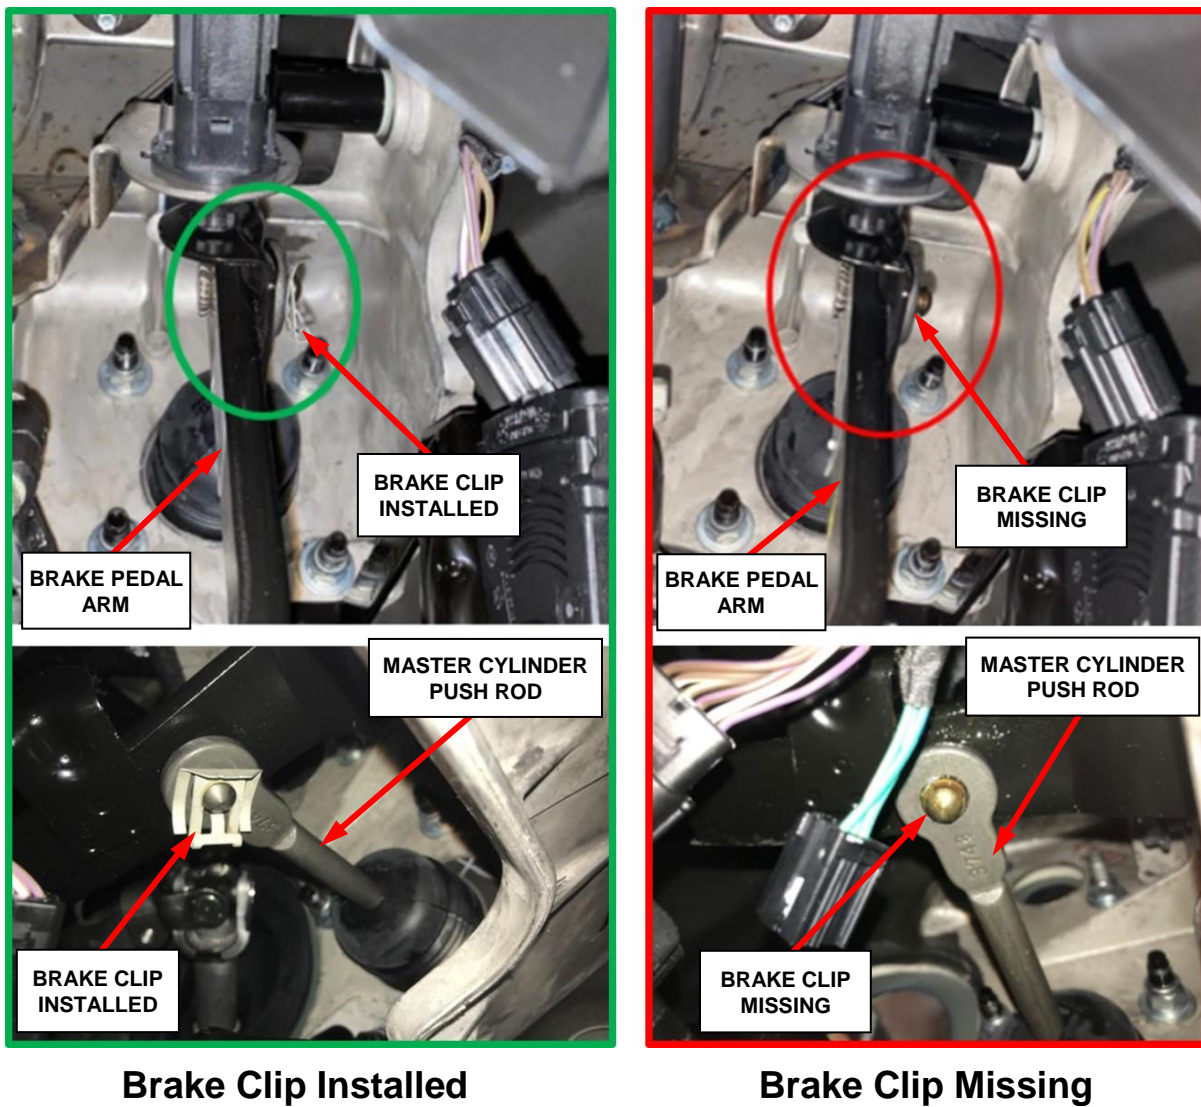

Figure 3 – Inspect for a Clip Securing the Brake Master Cylinder Push Rod to the Brake Pedal Arm
- 4. Is there a clip installed securing the master cylinder push rod to the brake pedal arm? (Figure 3).